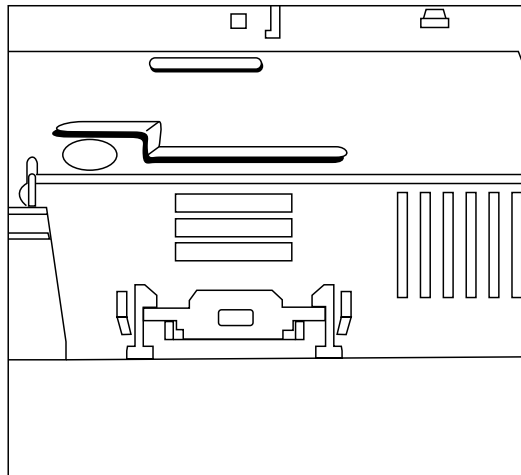

Figure 5-12. Securing J1
5. Slide J1 under the printer mounting plate to the keyboard access opening. Pull it through the opening and secure it with the retaining clips (where J16 originally was). See **Figure 5-12**. (Some cables are marked with KBD or Keyboard rather than •.)